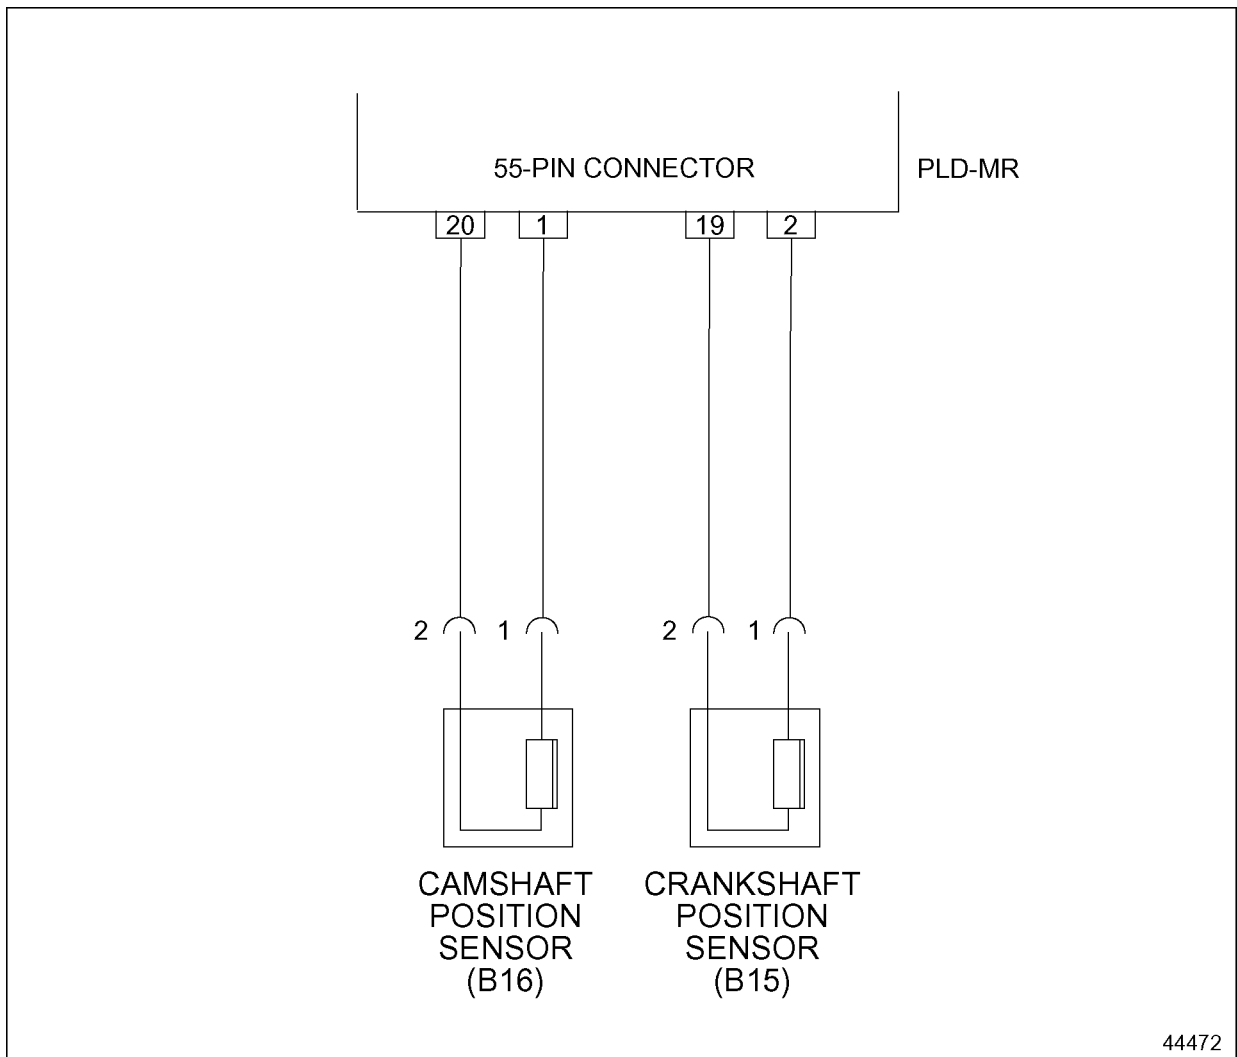

Figure 19-4 Crankshaft Position Sensor and Camshaft Position Sensor Wiring
1. If fault occurs only when cranking the engine (and engine will not start), check that the CKP and Camshaft Position (CMP) sensors are correctly wired to the PLD-MR. See Figure 19-4.
- 1. Bridge pins 2 and 19 on the 55-pin connector. See Figure 19-4. Pin locations are listed in Table 19-1.
2. Reseat the CKP and CMP sensors and check for crossed wires on the 55-pin connector. See Figure 19-4.
- [a] If test confirms polarity is reversed (fault 021 14 is present), check for crossed wires on the 55-pin connector and repair or replace wires. See Figure 19-4. Erase fault code memory.
- Reseat the CKP and CMP sensors and check for crossed wires. See Figure 19-4.